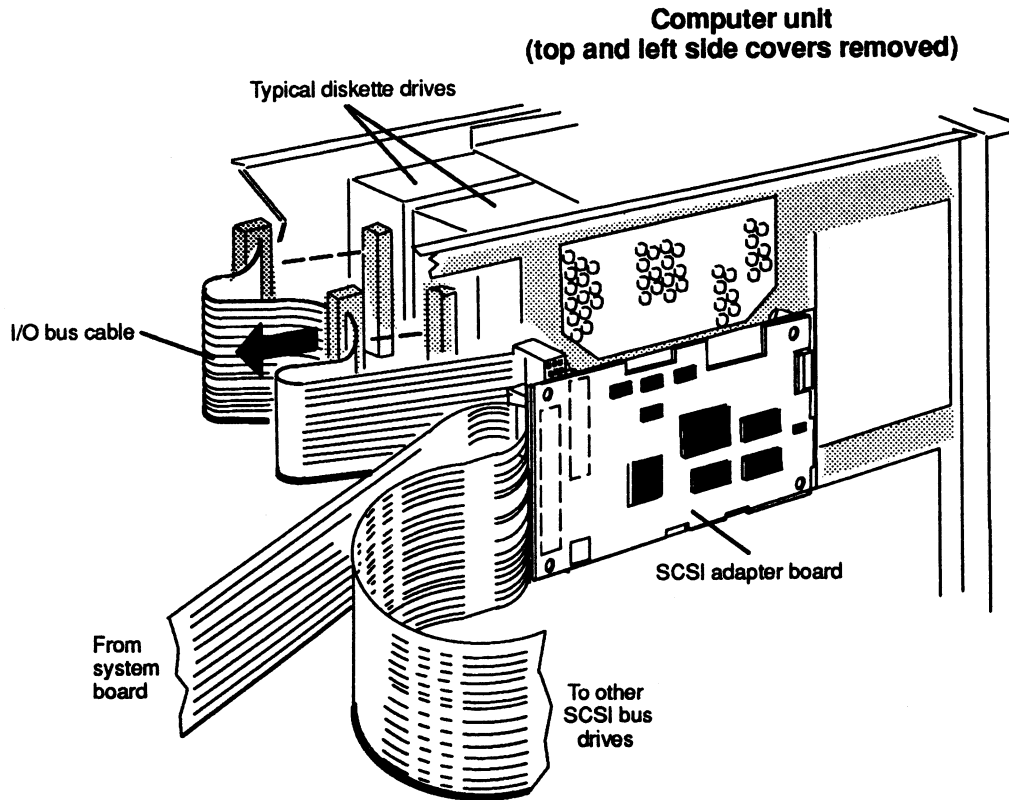

Figure 6-3 Unplugging the I/O Bus Cable from a Diskette Drive
2. If you are removing a diskette drive, unplug the I/O bus cable from the diskette drive you are removing as shown in Figure 6-3.